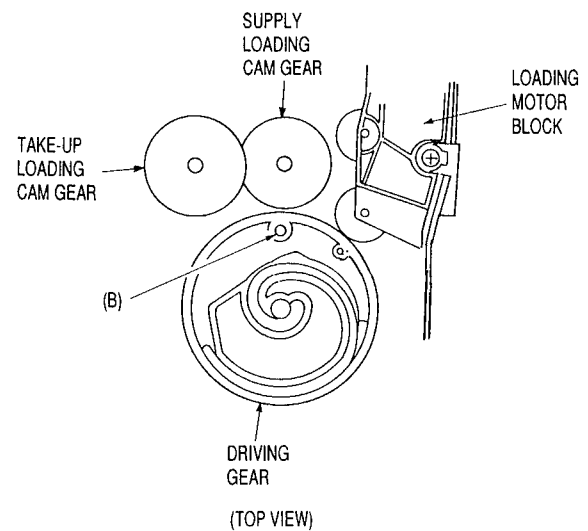

Fig. 3-37
- 2) Reinstall the driving gear so that hole (B) in the driving gear is aligned with the through-hole in the chassis. (See Fig. 3-37)